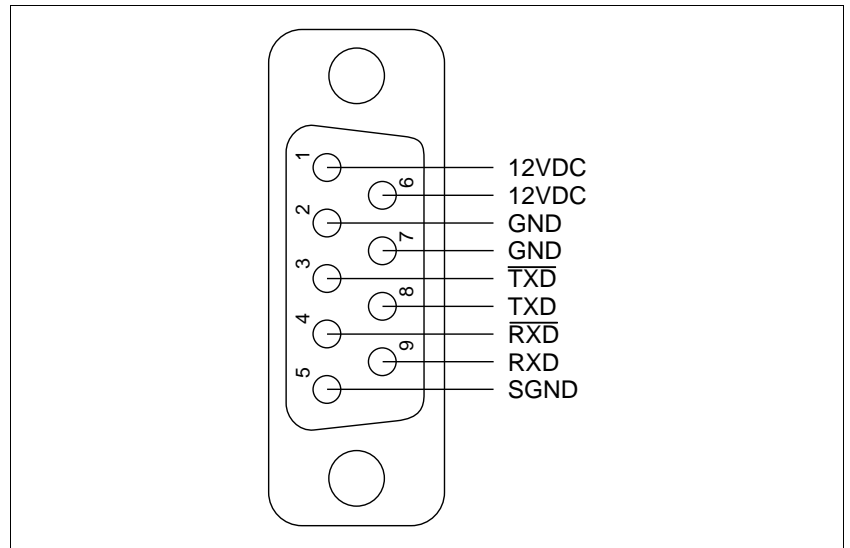

Fig. 2-12 Interface connection – device end
1. Solder the litz wires to the connector as illustrated in fig. 2-12.